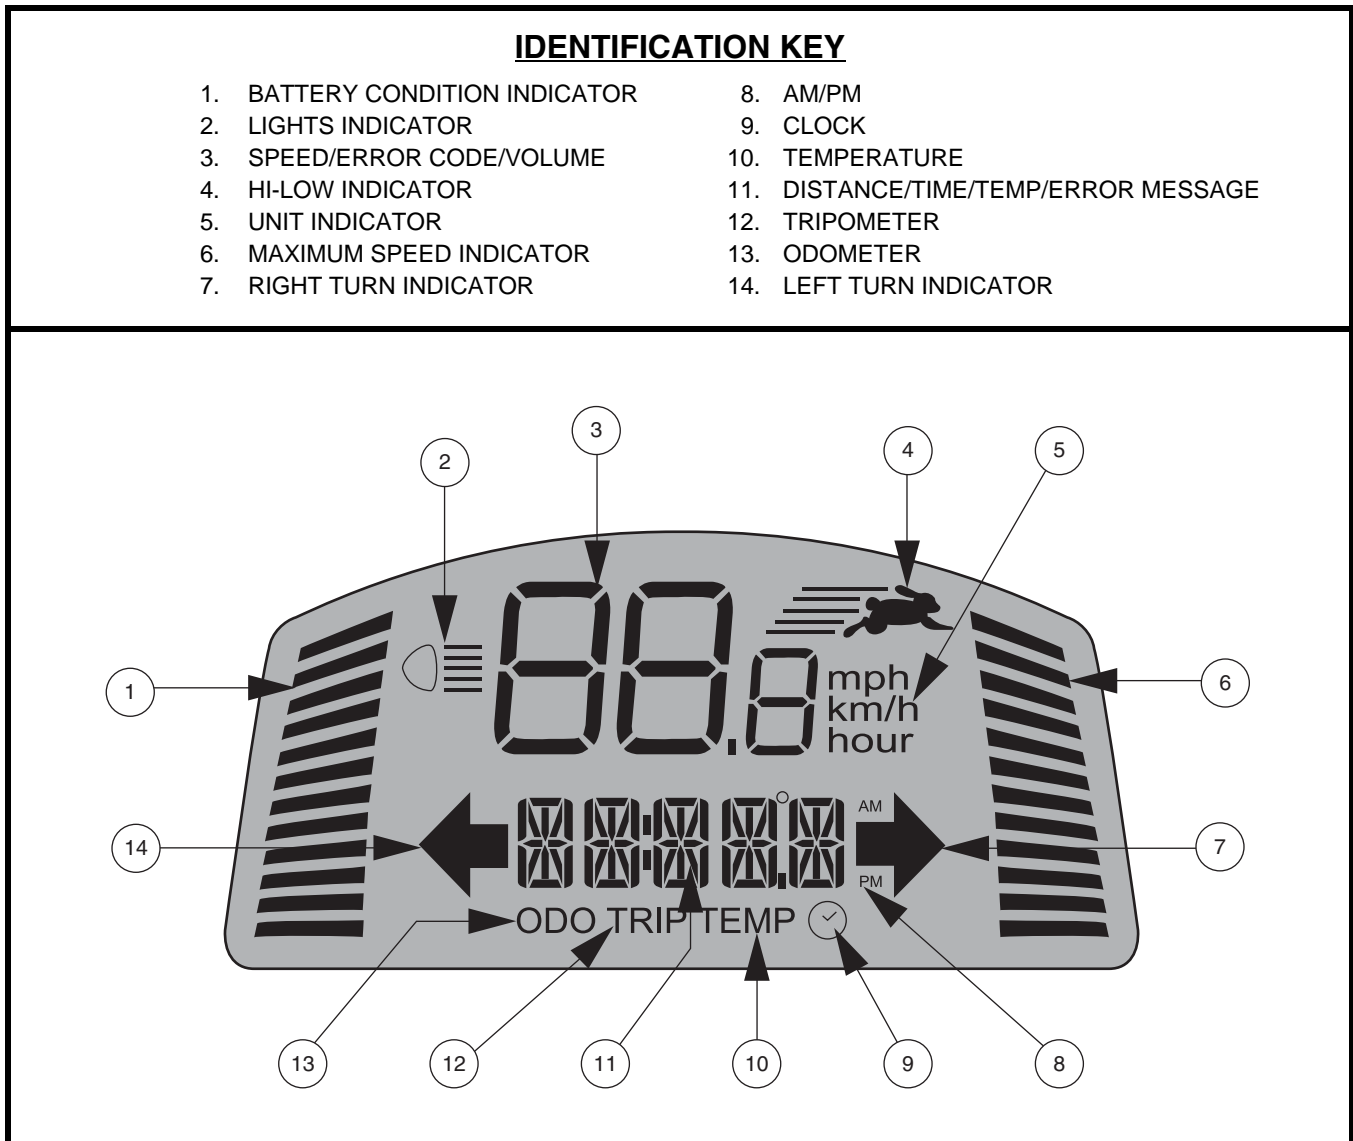

Figure 2. LCD Screen
- Press the **High-Low** button once to set the speed adjustment to high. The High-Low indicator will display on the LCD screen. **See figure 2.** Using this setting in conjunction with the speed adjustment buttons will allow the PMV to achieve speeds up to the maximum preprogrammed speed for the PMV.
These adjustment buttons enable you to pre-select and limit your PMV's speed. This is indicated by the maximum speed indicator on the LCD screen. **See figure 2.**
NOTE: The more bars shown on the maximum speed indicator, the faster your pre-selected maximum speed will be. See figure 2.
The LCD control panel offers easily intuited feedback information via the LCD screen. See **figure 2**. The LCD screen is also used during the set-up (activation) of the various control panel settings. See **chart 1**.